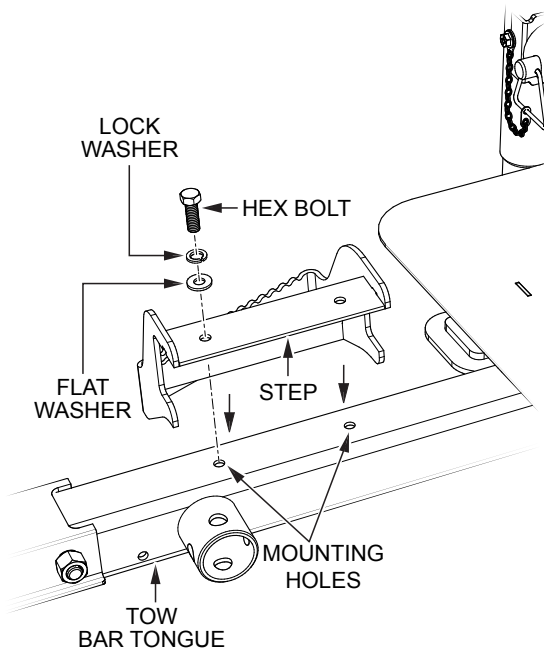

Figure 11. Install Tow Bar Step
1. Align the **tow bar step** with the two mounting holes (Figure 11) on the tow bar.